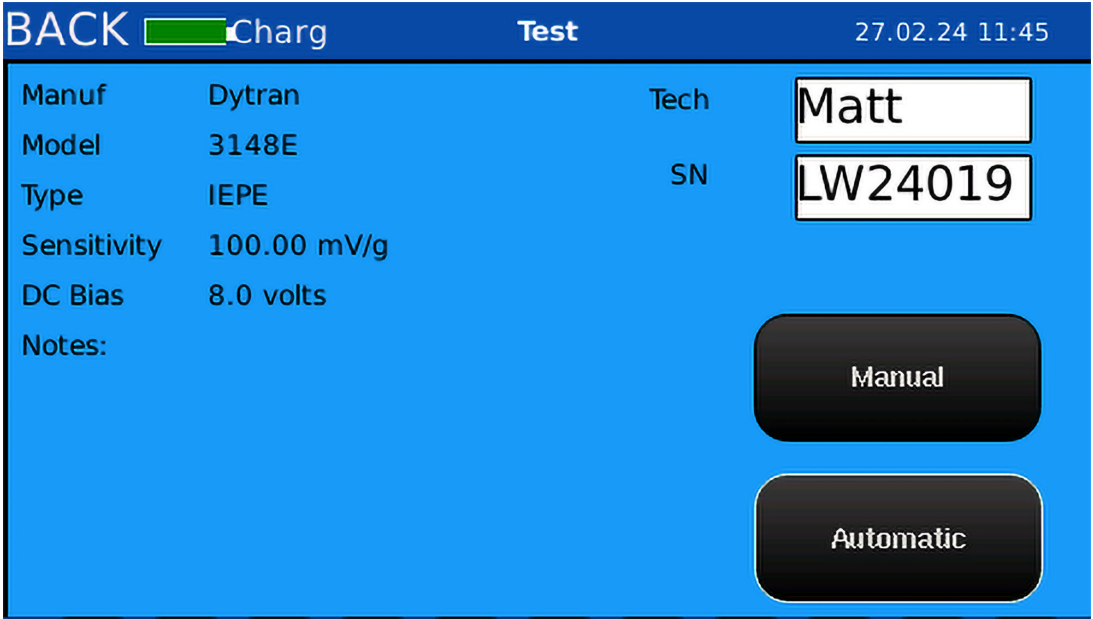

Figure 17. Sensor profile screen
5. When the model and sensitivity are selected, detailed information about the sensor, called the sensor profile screen, is loaded from the on-board library (Figure 17).
8. Tap the **Manual button** or **Automatic button** on the sensor profile screen to select either manual or automatic testing mode (Figure 17). See Testing in Manual Mode on page 29 and Testing in Automatic Mode on page 30 for additional instructions.